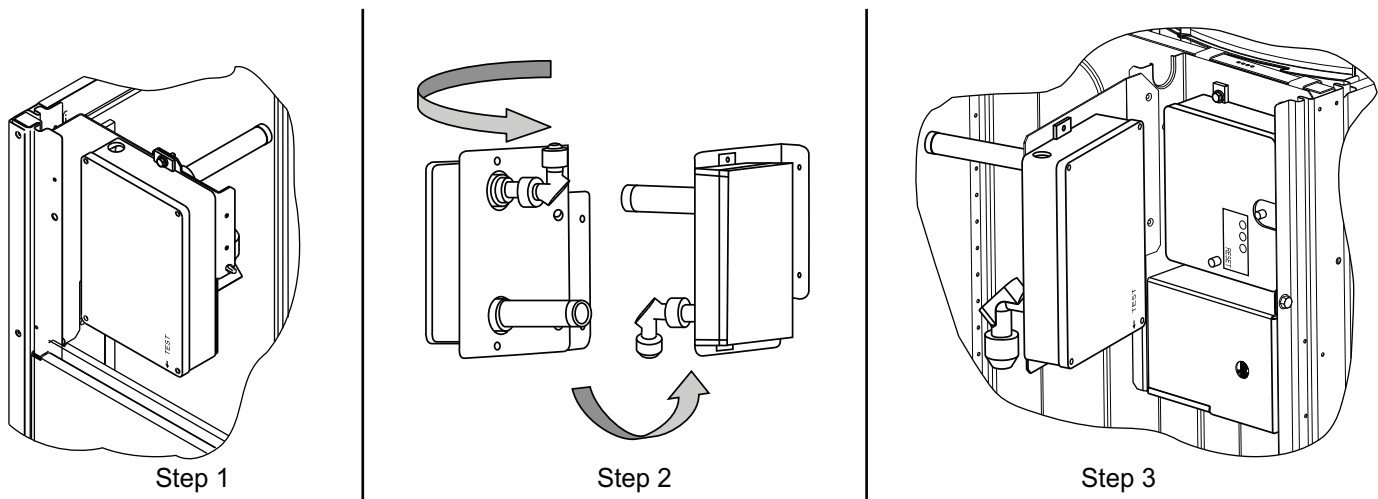

Fig. 75 — Completing Installation of Return Air Smoke Sensor
1. Unscrew the two screws holding the return-air smoke detector assembly. See Fig. 75, Step 1.
3. Turn the assembly 90 degrees and then rotate end to end. Make sure that the elbow fitting is pointing down. See Fig. 75, Step 2.
4. Screw the sensor and detector plate into its operating position using screws from Step 1. See Fig. 75, Step 3.